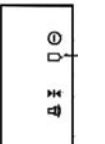

Figure 18
- If the LCD shows a blinking battery sign, it is indicating that you have low charge on your batteries and that you need to change them soon (Fig. 18).